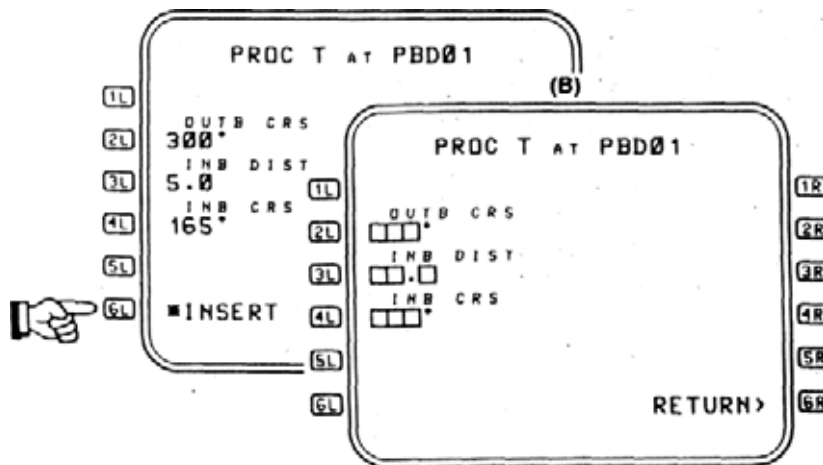

Figure 2-133
If a PROC T already exists for the revise point, data lines **2L**, **3L**, and **4L** contain the data pertaining to this defined PROC T ((A), Figure 2-133). If a PROC T does not already exist for the revise point, these same data lines display boxes ((B), Figure 2-133).
Referring again to Figure 2-133, (A) and (B):
When the desired parameters are input on the PROC T page, and the * INSERT prompt activated by pressing LSK **6L** (see Figure 2-133, (A)), the display reverts to the F-PLN page with the PROC T inserted, followed by a F-PLN DISCONTINUITY.